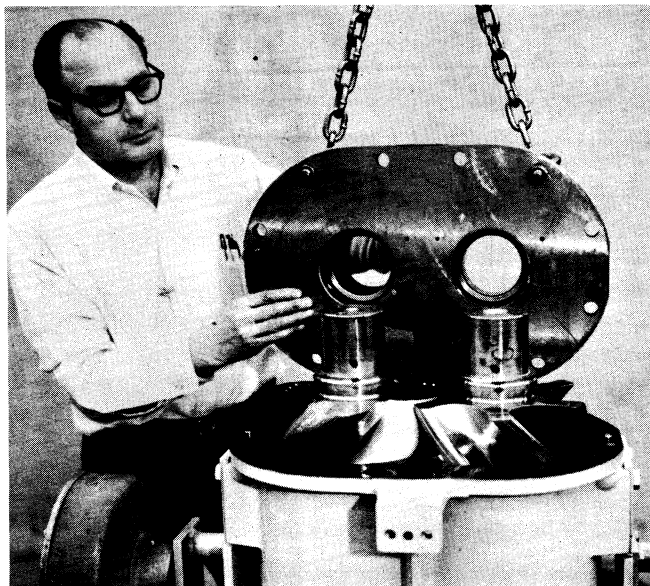
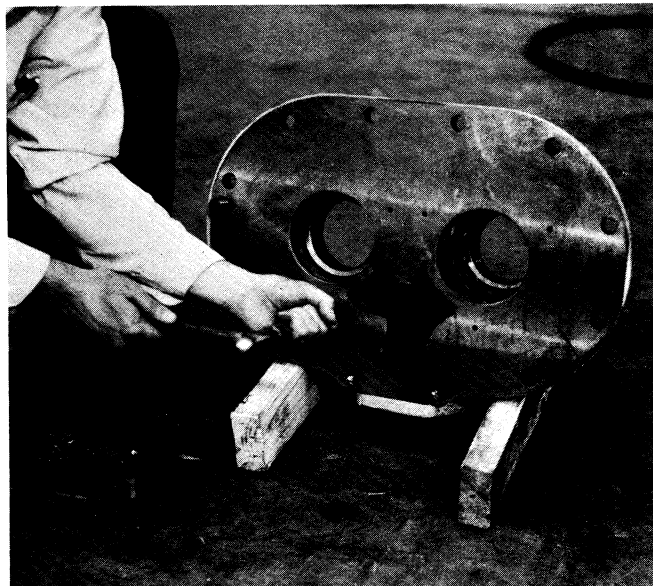

Figure 16
Figure 17
13. Remove the rear bearing housing. Refer to Figure 16. Remove and discard the rear bearing housing to rotor housing gasket. Tap the thrust bearings out of the rear bearing housing using a $\frac{1}{8}$ " diameter drift through the three holes provided around the outer race of each bearing. Refer to Figure 17.